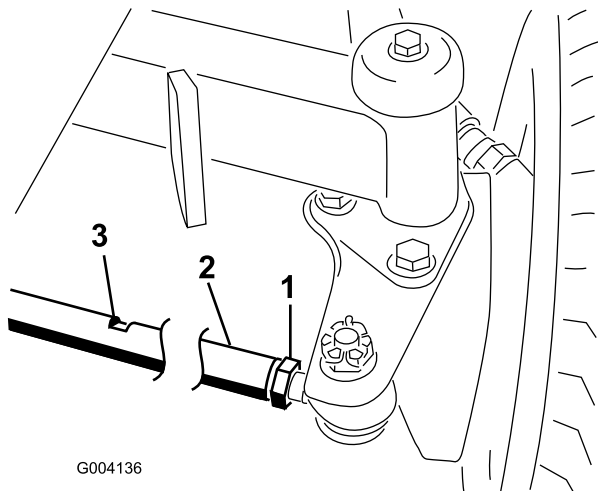

Figure 71
2. Loosen the jam nut on each end of the tie rod (Figure 71).